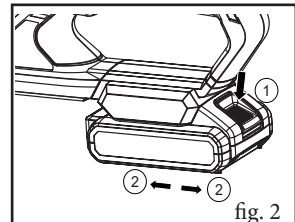

fig. 2
2. Installing and removing the battery (fig. 2).